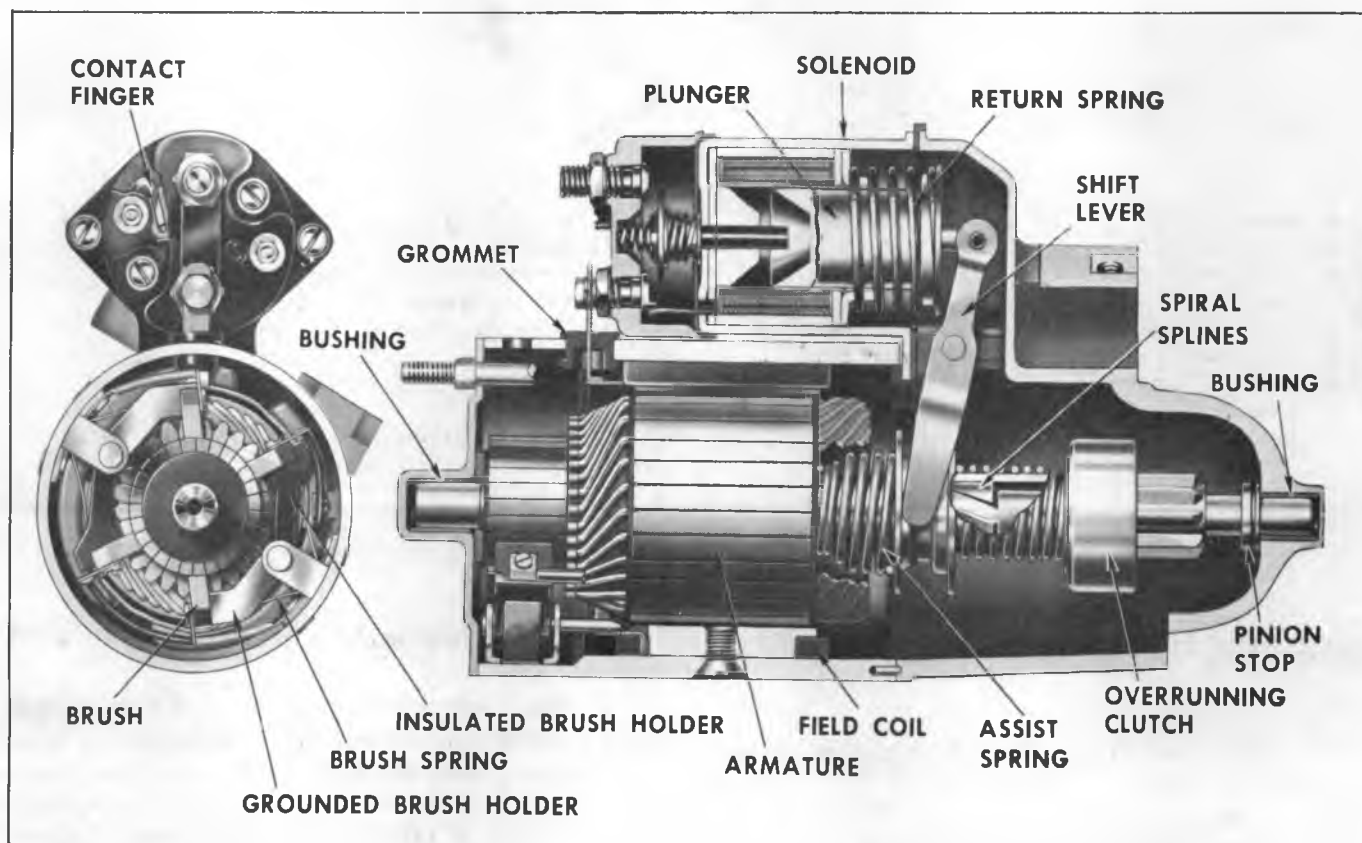

Fig. 1S-Starting Motor Cross Section
**DISASSEMBLY (Figs. 1S and 2S)**